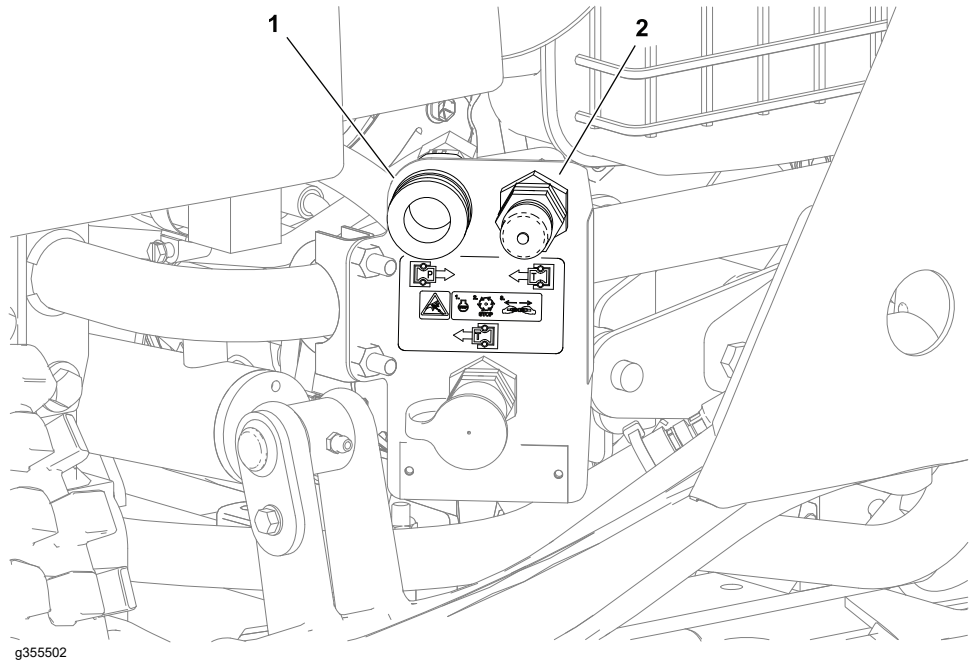

Figure 45
4. Use 2 hydraulic test hoses to install the tester to the kit quick-disconnect fittings. Make sure the tester is installed in the correct flow direction (from the “P” connector to the “T” connector) and the tester flow control valve is fully open; refer to Figure 45.